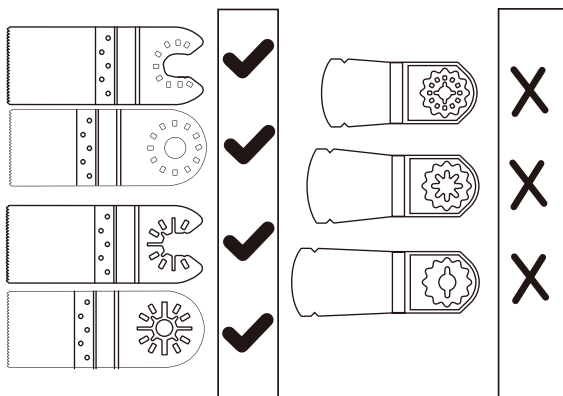

Figure 11
4. SELECTING AN APPLICATION TOOL (SEE FIG. 11)